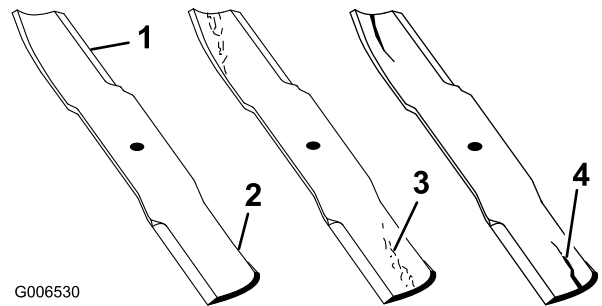

Figure 81
1. Inspect the cutting edges (Figure 81).
2. Inspect the blades, especially the curved area (Figure 81).
If you notice any damage, wear, or a slot forming in this area (Figure 81), immediately install a new blade.